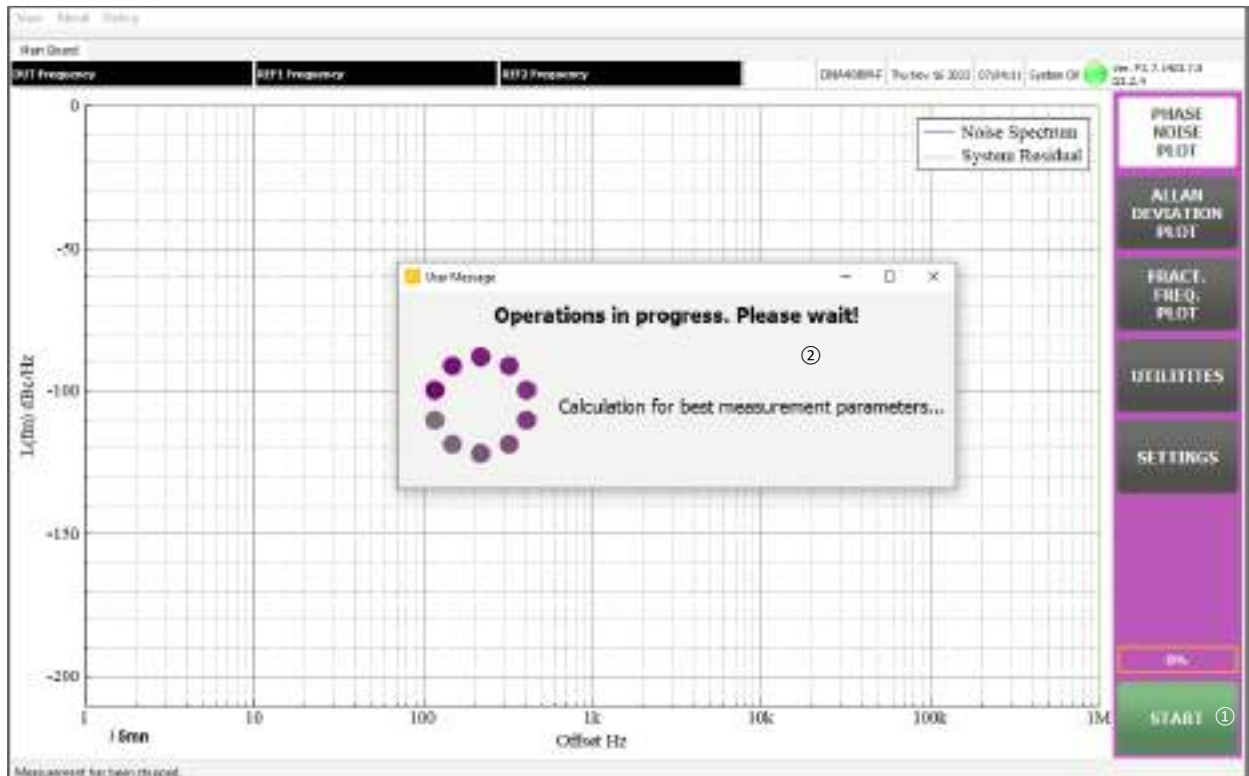
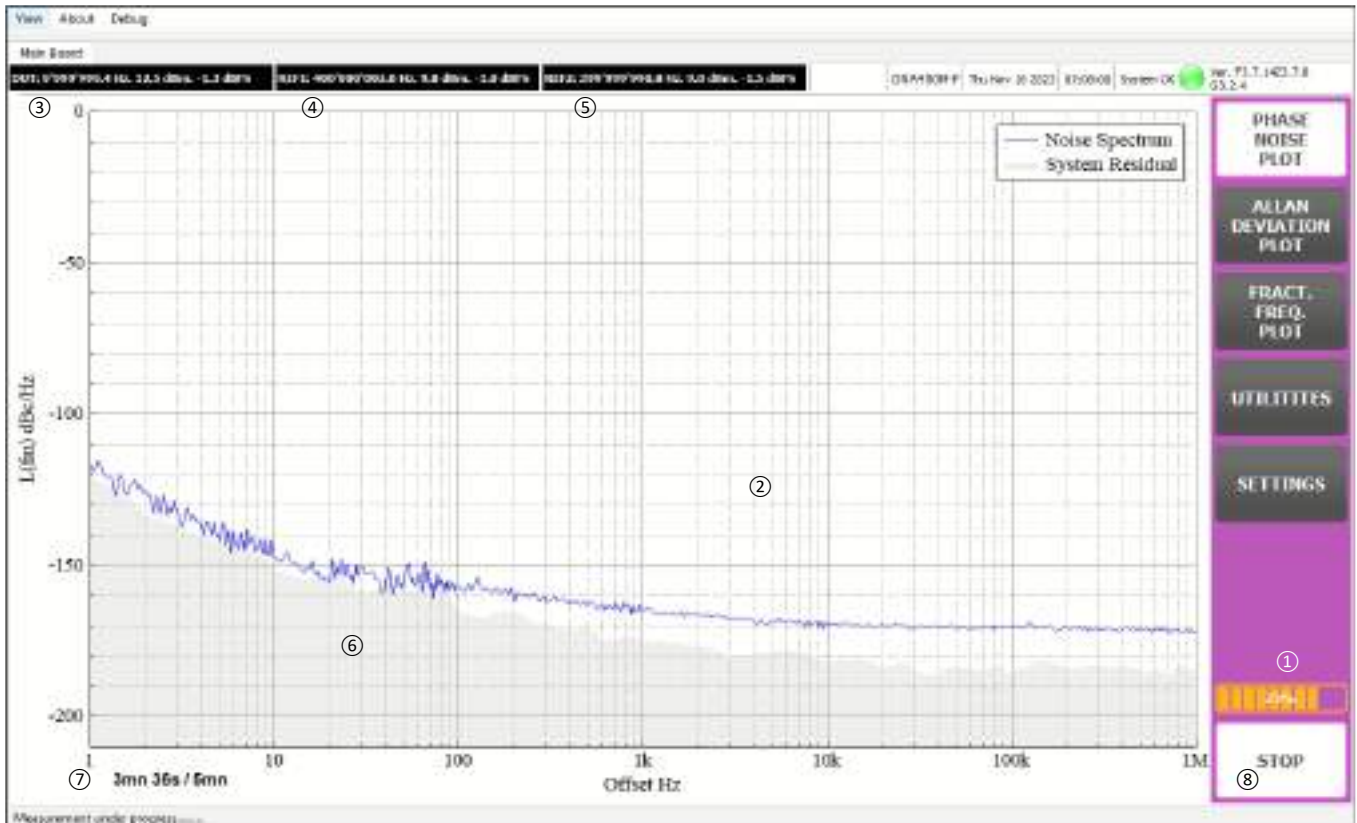

Figure 46 - Start
Figure 47 - Running measurement
Frequency accuracy parameter use by DNA during the start operation, see Figure 46 - Start.
DNA is now set up and ready for measurement and can be launched by clicking on the START ① button. Before the measurement is really launched, the DNA is computing for best internal measurement parameters. During this time, a message popup is shown to inform the users. While the measurement is under progress, users should see the text “Measurement under progress ...” ② displayed on Figure 46 - Start.
When Best Calculation is finished (Figure 46 - Start) measurement selected is being plot (Figure 47 - Running measurement).